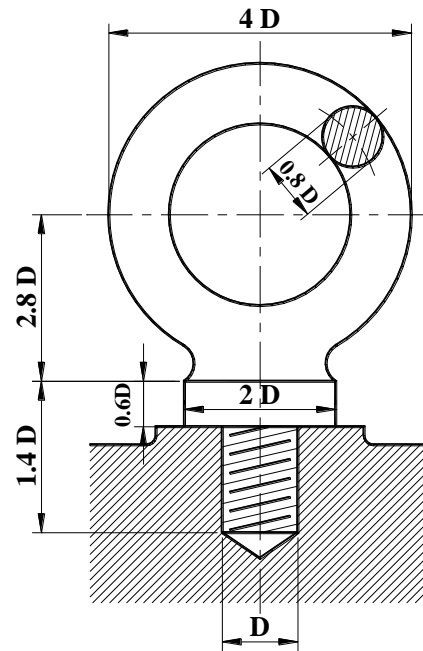

**Figure T5.4: Hexagonal Bolt**
4. Draw a bolted joint to conventional ratios as shown in *Figure T5.4*. Take  $d = 20$  mm,  $m = 20$  mm and  $n = 30$  mm.